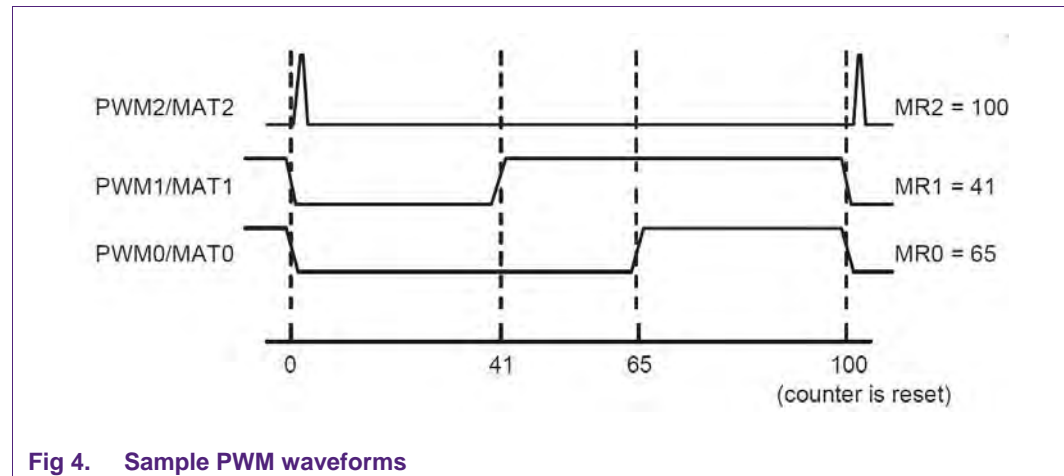

Fig 4. Sample PWM waveforms
5. Set the PWM period by writing the match value in the match register selected for resetting the timer counter. See Fig 4.